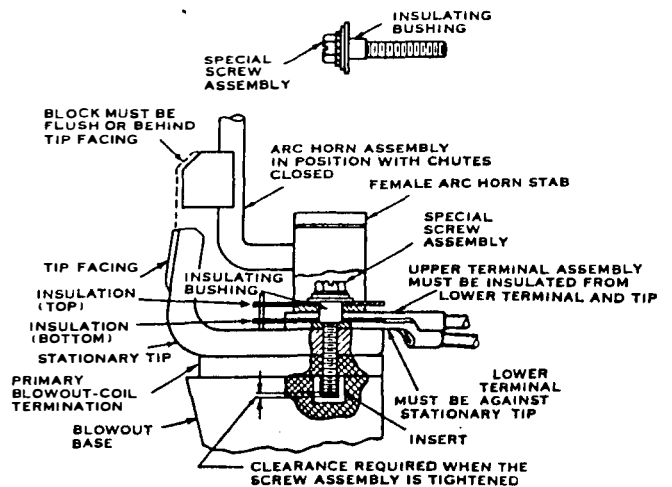

Fig. 47. Blowout-coil connection assembly
- (b) The auxiliary-coil terminals and insulation must be assembled as shown in Fig. 47.